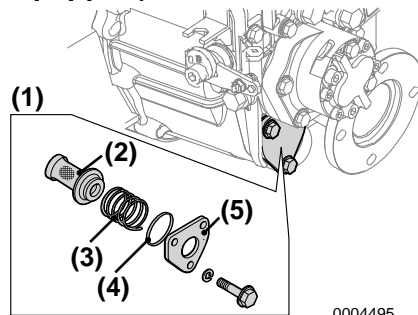

Figure 3
- a. Remove side cover (**Figure 3, (5)**) and remove the filter (**Figure 3, (2)**).
- c. Hold the filter in place with the coil spring (**Figure 3, (3)**) and insert into the case. Install a new O-ring (**Figure 3, (4)**) in the side cover.